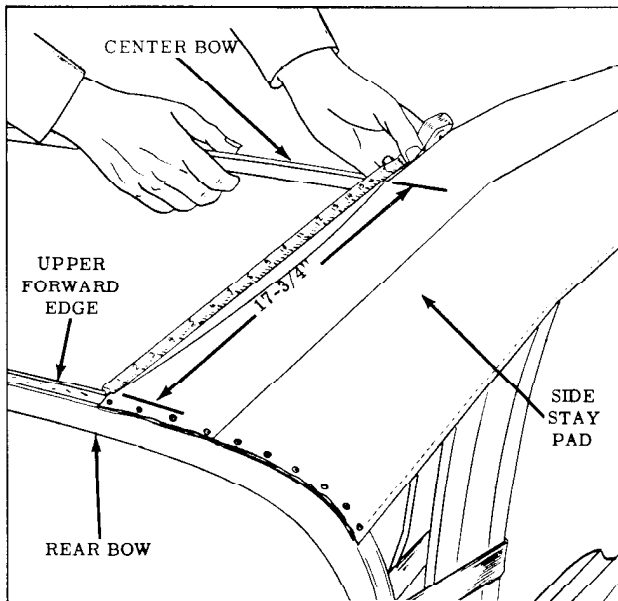

Fig. 15-92 Position of Rear Bars
5. Distance from center of center bow to rolled forward upper edge of rear roof bow is 17-3/4" $\pm 1/4$ ". Readjust spacer sticks and side roof rail pads as required if rear bow does not come within this position range. (Fig. 15-92)